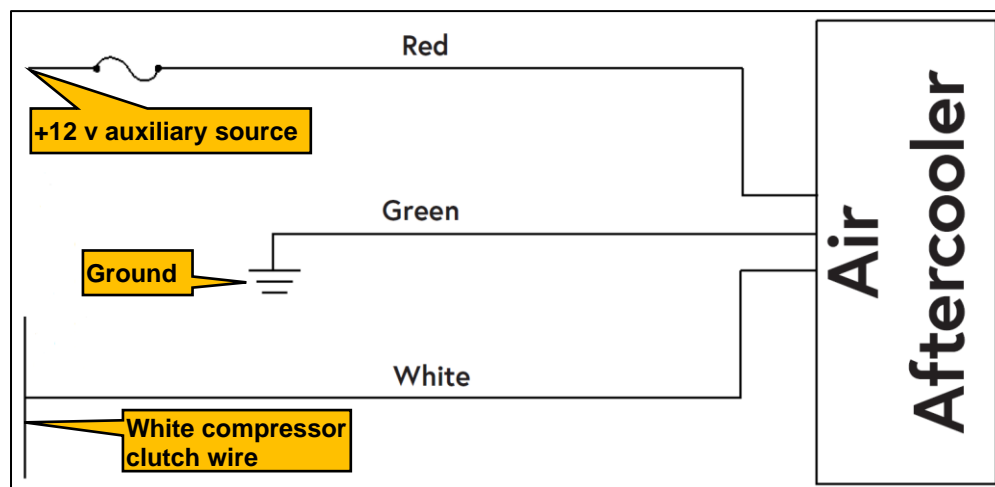

Figure 1
- In this configuration the Eliminator will be powered whenever the compressor is operating (Figure 1).